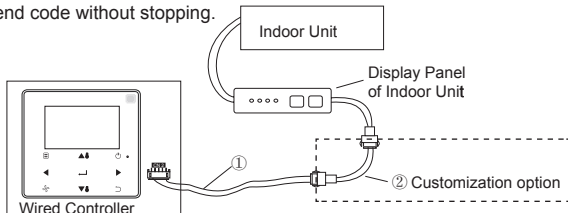

Fig. 12
2-5-6 For the non 2nd generation IDUs, the wired controller needs to be interconnected to the 5-core terminal on the IDU display panel through the CN2 port. See Fig. 12. The following standard connection cable set ① as configured for the following wired controller accessory.